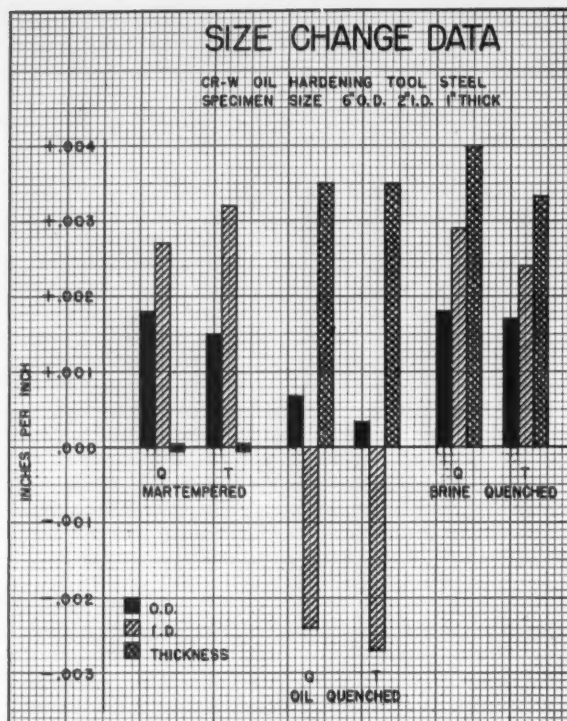

Fig. 5—Bar graph showing results of varying heat treating technique upon size change.
The author has conducted size change experiments on similar test rings of a chromium-tungsten oil-hardening tool steel, which indicated that size change was a function of cooling rate when these rings were martempered, oil quenched and brine quenched. Figure 5 illustrates this effect of varying heat treating technique upon dimensional change in similar test rings. All of the test rings were preheated at 900° F., transferred to an atmosphere-controlled furnace at 1440° F., held one hour, and quenched (1) 400° F. salt, (2) 120° F. oil and (3) brine at 68° F., and after measurement were tempered at 400° F. for two hours. Dimensional changes are shown for the "as quenched" and the "quenched and tempered" conditions designated "Q" and "T" respectively on the bargraph for each type of quench. Table I shows the hardnesses after quenching and after tempering.